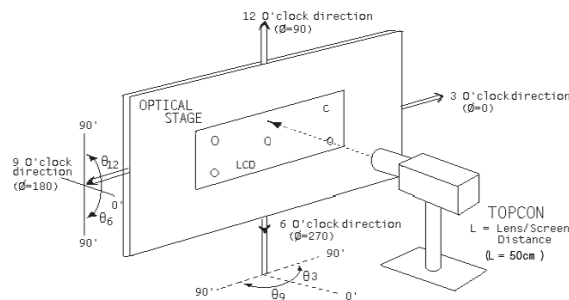

Figure 3
- Viewing angle is the angle at which the contrast ratio is greater than 10. The viewing angles are determined for the horizontal or 3, 9 o'clock direction and the vertical or 6, 12 o'clock direction with respect to the optical axis which is normal to the panel surface (see Figure 3).
- Contrast measurements shall be made at viewing angle of $\theta = 0^\circ$ and at the center of the panel surface. Luminance shall be measured with all pixels in the view field set first to white, then to the dark (black) state. (see Figure 3) Luminance Contrast Ratio (CR) is defined mathematically.